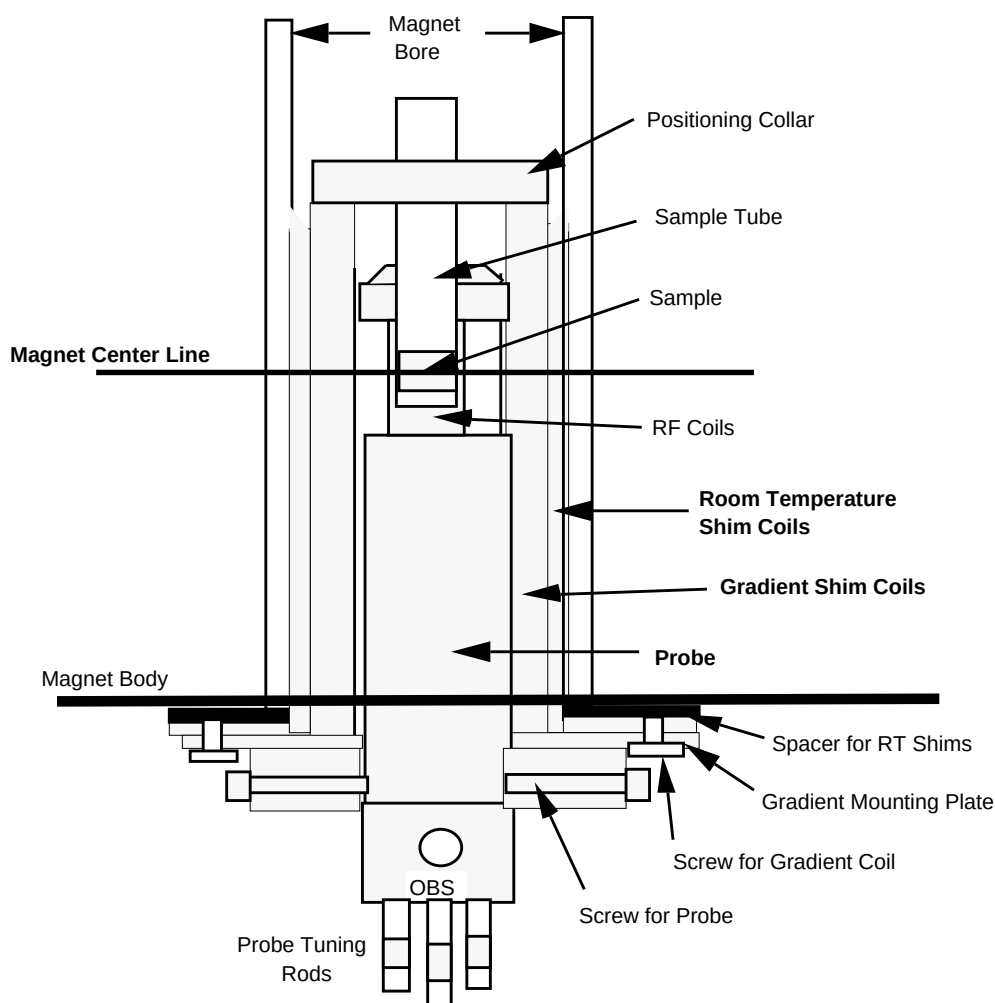

Figure 49. Microimaging Probe and Gradient System
Figure 49 illustrates the probe and gradient coil configuration.
5. Connect an air hose to the tee between S801 and the pressure gauge (see Figure 49). The gauge should read between 10 and 20 psi; switch S802 needs more than 10 psi to close.